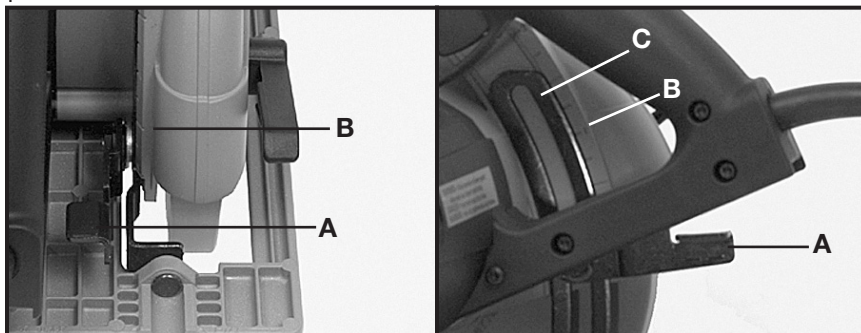

Fig. 4
2. Lift up depth adjustment locking lever (A) Fig. 4, at rear of saw.
NOTE: The upper guard (B) Fig. 4, is marked in 1/4" increments for convenience in setting depth of cut. Align the depth segment mark (C) Fig. 4, with the desired depth marking on the guard.